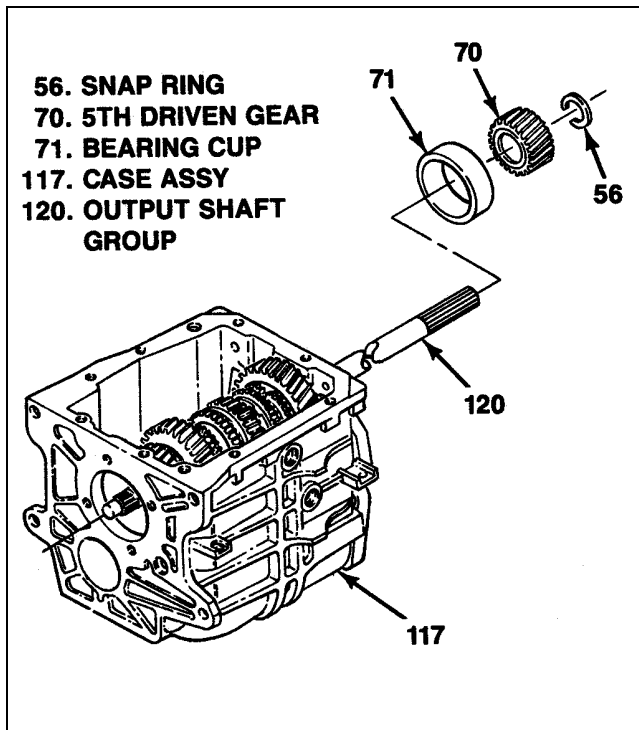
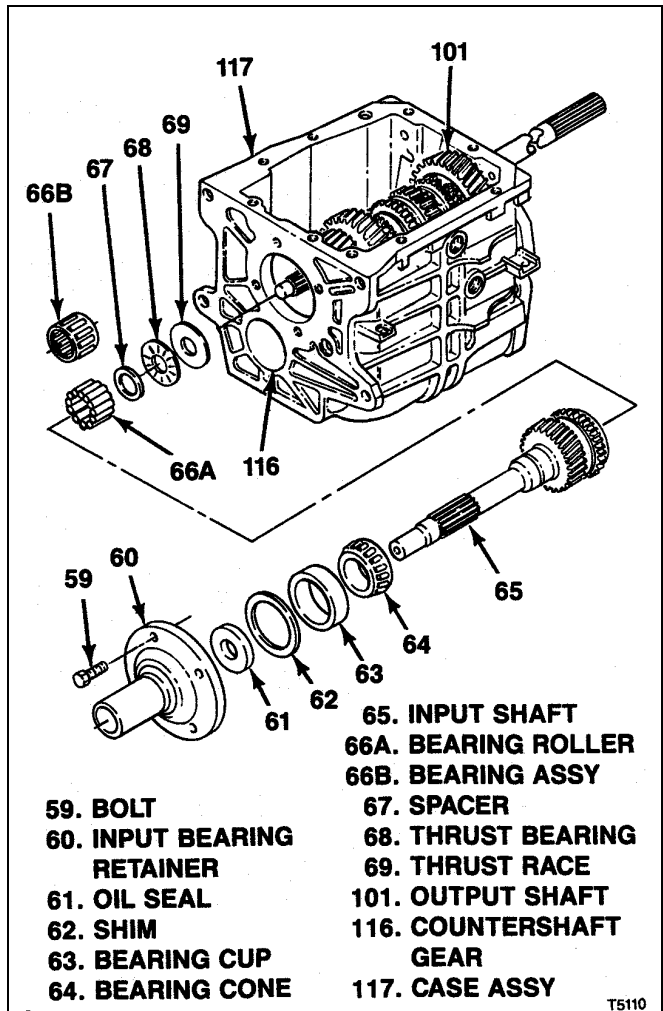

Figure 6-10. Installation of T5 WC Output Shaft Group
Figure 6-11. T5 WC Input Shaft
**6-12. INSTALLATION OF T5 WC OUTPUT SHAFT GROUP.** After assembly of output shaft group (120) (paragraph 6-11), install as follows (see figure 6-10):
- Tilt rear end of output shaft group (120) down and install through top opening and out rear of transmission case (117). Rest output shaft group on countershaft previously installed.
- At rear of transmission case 8117, install bearing cup (71), 5th, driven gear (70) and one snap ring (56).
**6-13. ASSEMBLY AND INSTALLATION OF T5 WC INPUT SHAFT.** After installing output shaft, proceed as follows (see figure 6-11):
- If removed, press new bearing cone (64) onto input shaft (65) to bottom out on shaft shoulder. Use suitable tubular drift that contacts bearing cone inner race only.
- Install pilot bearing in input shaft (65) as follows, depending on bearing type:
- Roller bearing Assembly.** Install bearing assembly (66B) in end of input shaft (65).
- Individual Bearing Rollers.** Coat bearing rollers (66A) with petrolatum and install in end of input shaft. Install spacer (67).
- Install thrust race (69) and Thrust bearing (68) on end of output shaft (101) in transmission.
- Rotate input shaft (65) (with pilot bearing) so that flat on its clutch tooth ring aligns with countershaft (116) and install in transmission, over end of output shaft (101) using care not to dislodge bearing parts previously installed.
- Using suitable drift, press new oil seal (61) into input bearing retainer (60).
- Install bearing cup (63) but do not install shim(s) (62) at this time.
- Do not use sealant on input bearing retainer at this time. Align index marks made at disassembly and install input bearing retainer (60). Attach with bolts (59) and torque to 15 lb-ft (20 Nm).